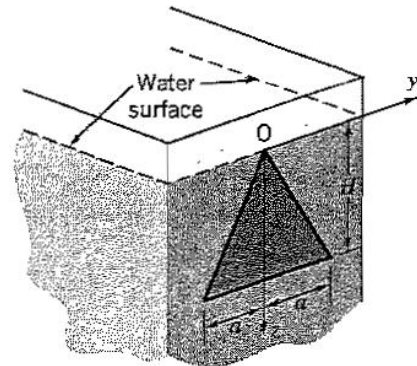

Figure P2.96
2.96 A tank of water of density ρ has a symmetric triangular gate of height H and maximum width $2a$, as shown in Figure P2.96. Calculate the force F exerted by the water